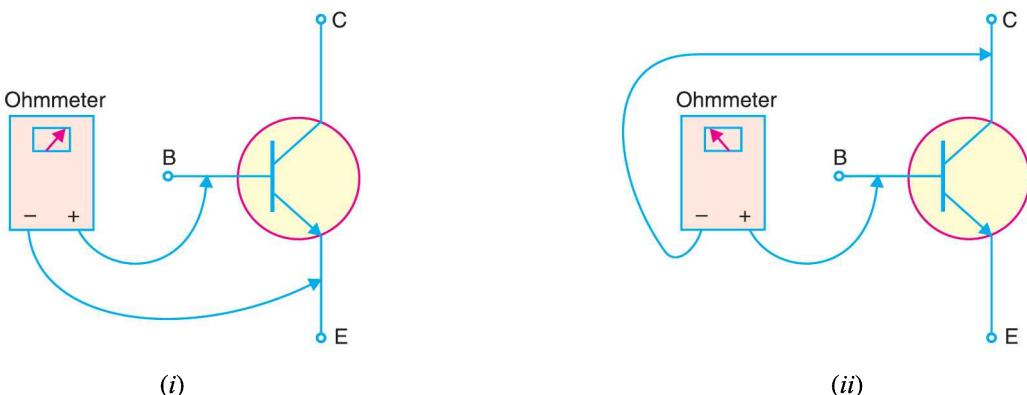

Fig. 8.65
An ohmmeter can be used to check the state of a transistor *i.e.*, whether the transistor is good or not. We know that base-emitter junction of a transistor is forward biased while collector-base junction is reverse biased. Therefore, forward biased base-emitter junction should have low resistance and reverse biased collector-base junction should register a much higher resistance. Fig. 8.65 shows the process of testing an *npn* transistor with an ohmmeter.
- (i) The forward biased base-emitter junction (biased by internal supply) should read a low resistance, typically $100\ \Omega$ to $1\ k\Omega$ as shown in Fig. 8.65 (i). If that is so, the transistor is good. However, if it fails this check, the transistor is faulty and it must be replaced.
- (ii) The reverse biased collector-base junction (again reverse biased by internal supply) should be checked as shown in Fig. 8.65 (ii). If the reading of the ohmmeter is 100 k Ω or higher, the transistor is good. If the ohmmeter registers a small resistance, the transistor is faulty and requires replacement.